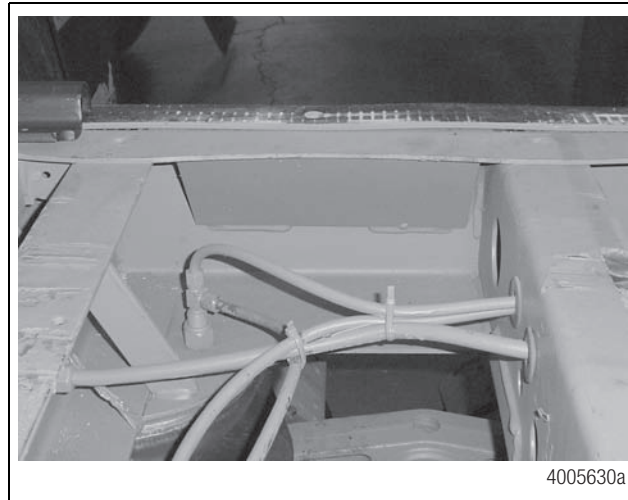
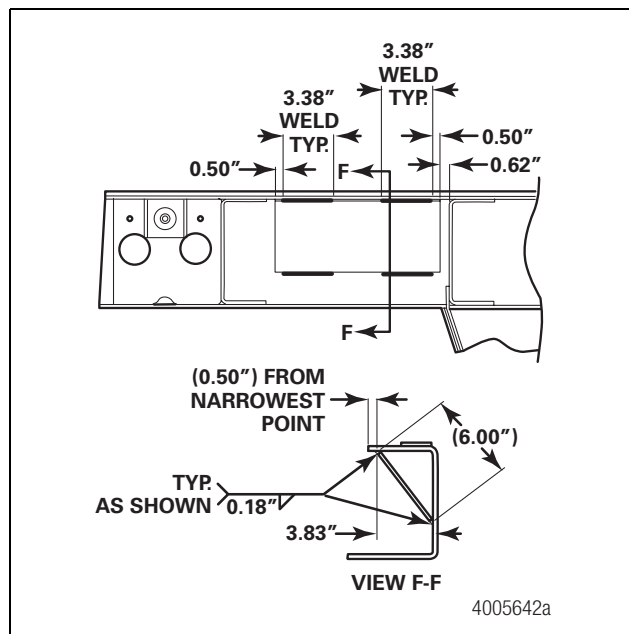

Figure 64
Figure 65
8. Position and weld the enhancement plates between cross members one and two. Refer to Figure 64 and Figure 65.